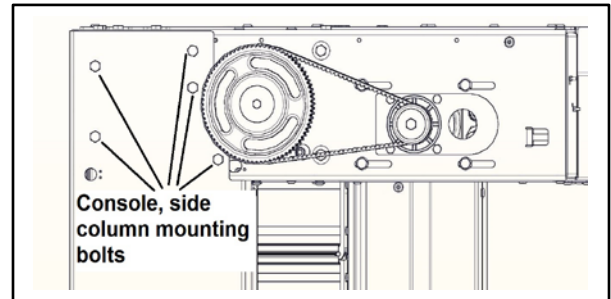

Figure 23
4. Inspect the hex head screws used to secure the head assembly to the side columns. Replace any missing or damaged hardware. (See Figure 23.)